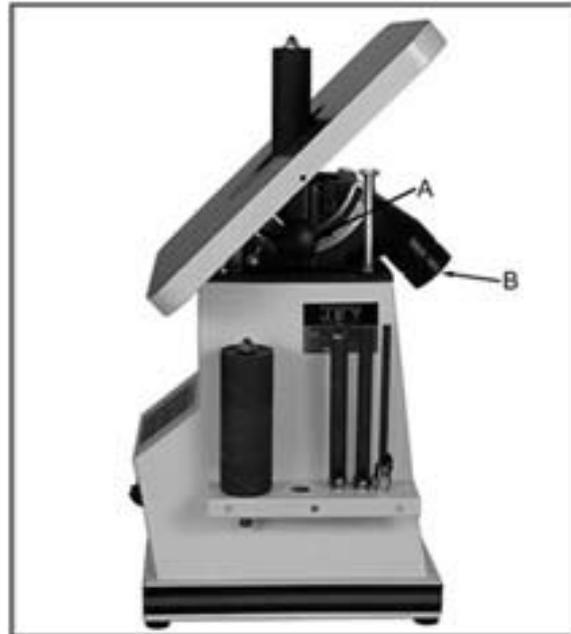

Figure 5
1. Loosen both knobs (A, Figure 5) and adjust the table to the desired angle.
The dust port (B, Figure 5) can be hooked directly to a 2" hose for dust collection.